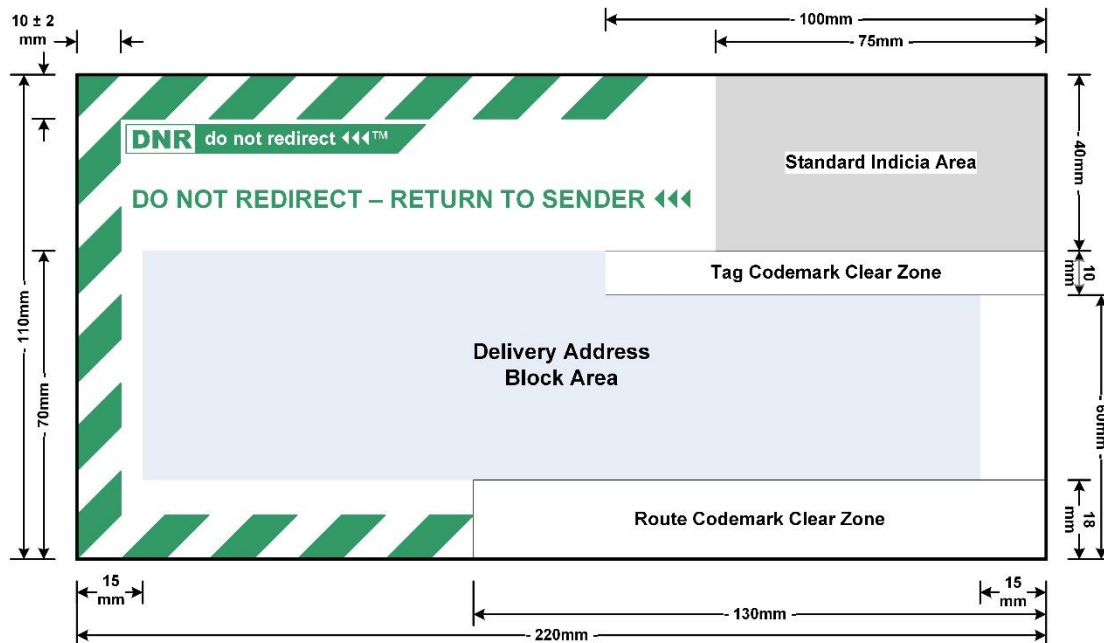
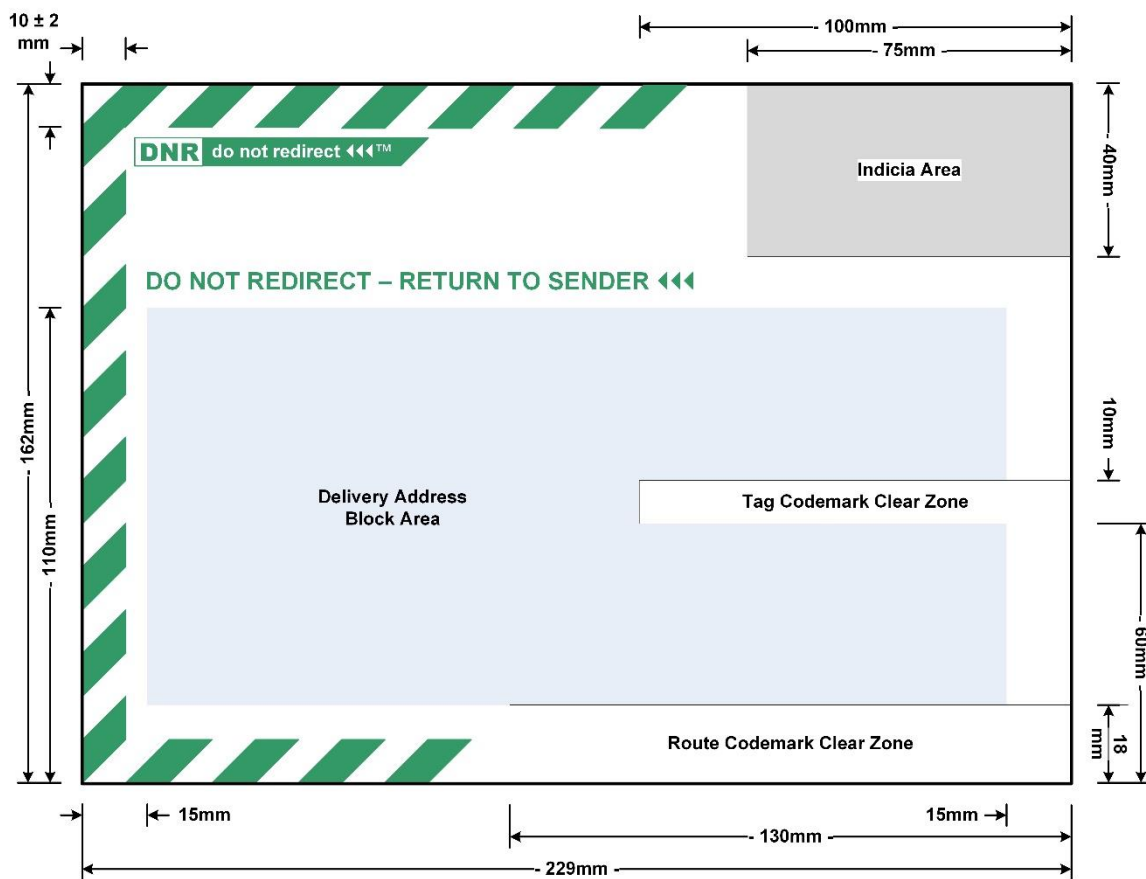
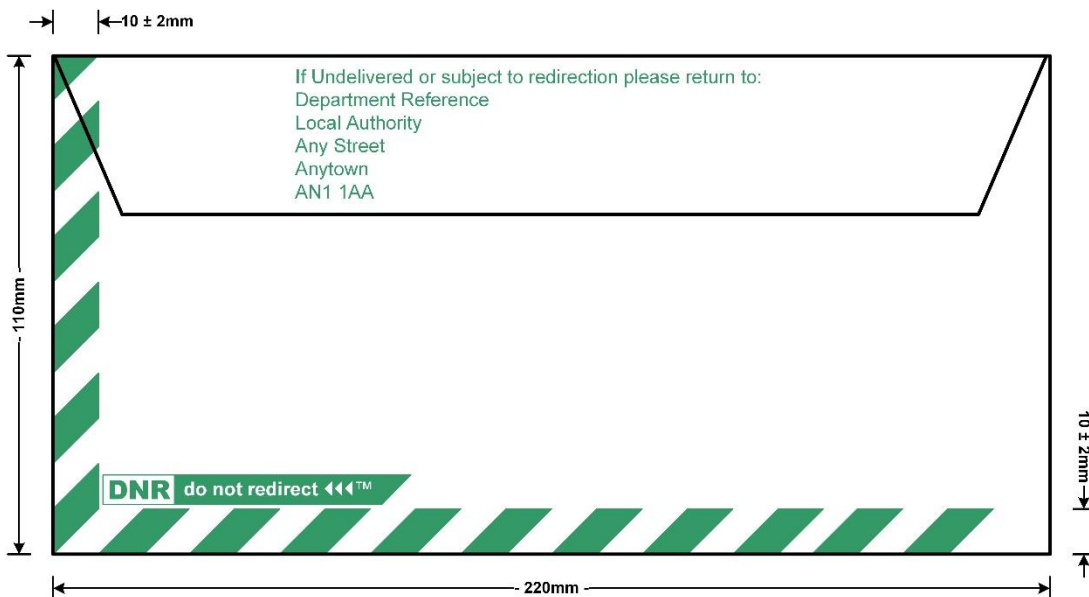
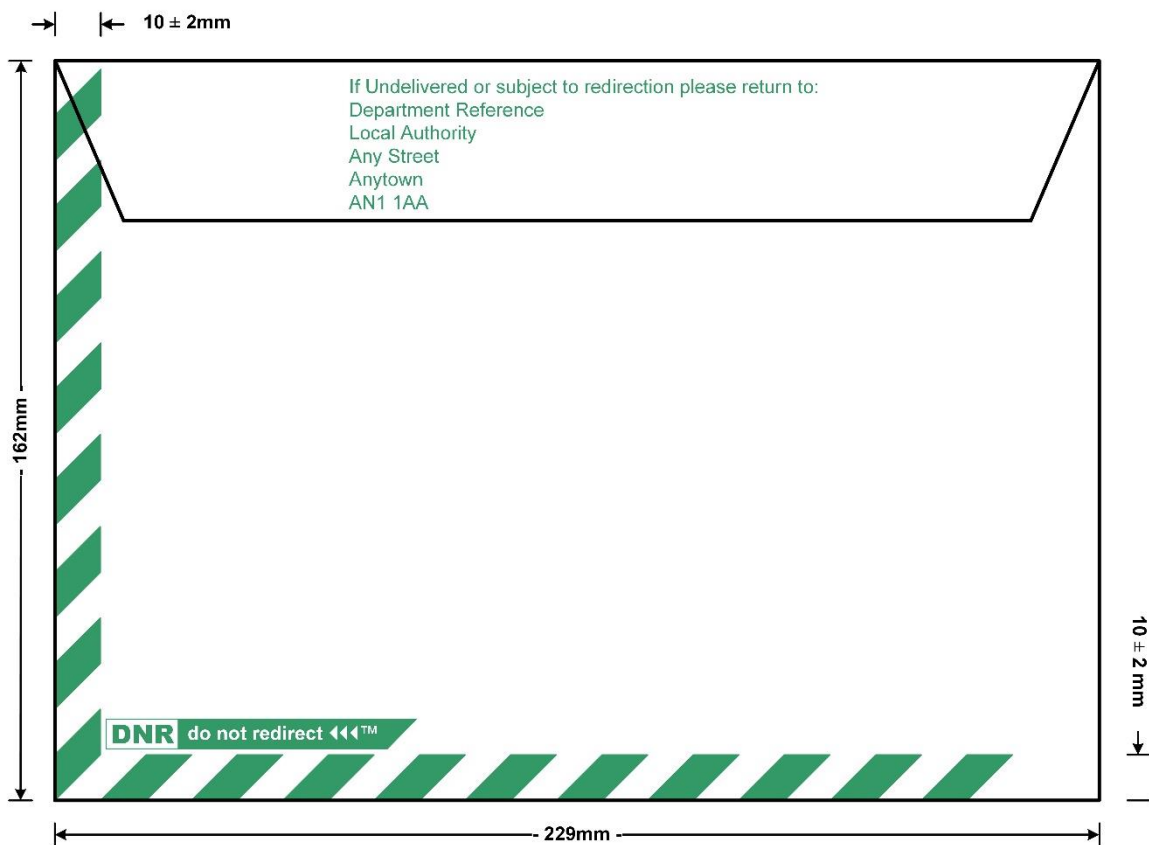

Figure 61 – DNR – DSA DL Letter front (not to scale)
Figure 62 - DNR - DSA C5 Letter front (not to scale)
Figure 63 - DNR - DL Letter back (not to scale)
Figure 64 – DNR – C5 Letter back (not to scale)
Prefix	'If undelivered or subject to Redirection, please return to:' See Figure 63 and Figure 64.
3.1 Specific attributes for Do Not Redirect include Chevrons, a trademark and text. These are defined in the following table and illustrated in Figure 61 to Figure 64.
Front Location	<ul style="list-style-type: none"> DL Envelope - The mark must be in the top left corner and inset by 1mm from the top and left chevrons (see Figure 61). C5 Envelope - The mark must be in the top left corner and inset by 1mm from the bottom and left chevrons (see Figure 62).
Back Location	The mark must be in the bottom left corner and inset by 1mm from the bottom and left chevrons (See Figure 63 & Figure 64)
Location	The text must be located beneath the DNR Mark, above the Delivery Address block and left justified as illustrated Figure 60 & Figure 61.